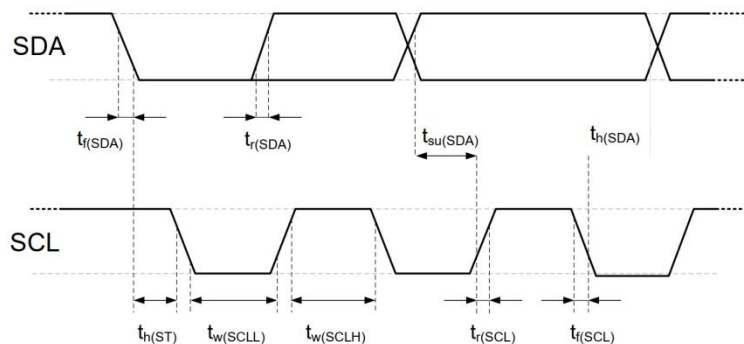

Figure 9. Timing diagram of digital input / output
Electrical characteristics, such as power consumption, input and output high and low voltages, etc., depend on the power supply voltage. In order to make the sensor communication smooth, it is very important to ensure that the signal design is strictly limited to the range given in Table 6, 7 and Figure 9).
(1) The delay of the internal SDI input pin relative to the SCK pin, with a typical value of 100ns
(2) The internal SDI output pin has a time delay of the falling edge compared with SCK, with a typical value of 200ns
**Table 7.** Timing characteristics of I2C fast mode digital Inputs / outputs. The meaning is shown in Figure 9. Unless otherwise noted.